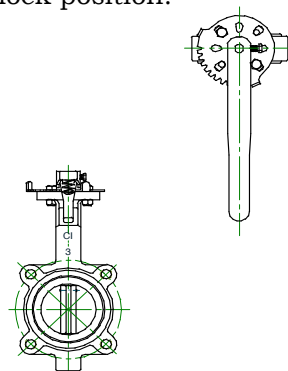

FIGURE 5: NOTCHPLATE INSTALLATION POSITION
- Step 1. First, start by loosely assembling the notch plate on the valve top plate. The notchplate should be installed with the notches in the third quadrant of the valve top plate with the stop tabs at the 6 o'clock and 9 o'clock position. The notchplate should be installed with the stop tabs pointing upward (Figure 5).